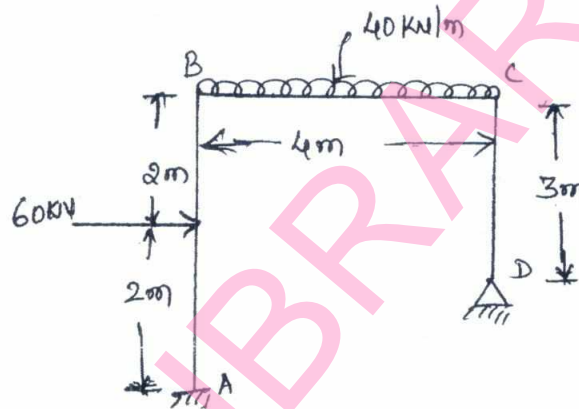

Fig. Q4
- 4 Analyse the frame shown in Fig Q4 by moment distribution method. Draw the bending moment diagram. (EI constant). (20 Marks)